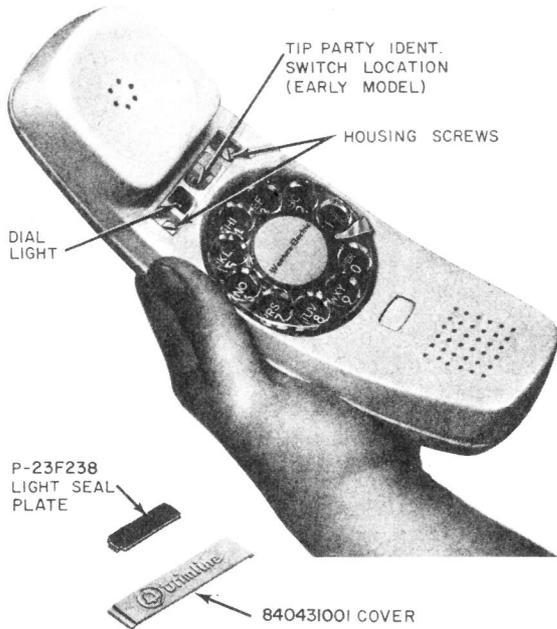

Fig. 14—220A Hand Telephone Set Cover and Light Seal Removed
3.10 If tip party identification is required, an H5AA cord must be used. Check under 840431001 cover of early production sets to see that screw used in tip party identification switch is tightened down. The absence of a screw or screw hole, in the identification switch position (Fig. 14) indicates that the connection has been made in the network at the factory.